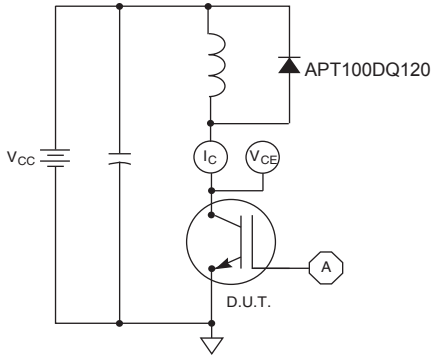

Figure 21, Inductive Switching Test Circuit
① Repetitive Rating: Pulse width limited by maximum junction temperature.
② For Combi devices,  $I_{ces}$  includes both IGBT and FRED leakages.
③ See MIL-STD-750 Method 3471.
④  $E_{on1}$  is the clamped inductive turn-on energy of the IGBT only, without the effect of a commutating diode reverse recovery current adding to  $\alpha$  the IGBT turn-on loss. Tested in inductive switching test circuit shown in figure 21, but with a Silicon Carbide diode.
⑤  $E_{on2}$  is the clamped inductive turn-on energy that includes a commutating diode reverse recovery current in the IGBT turn-on switching loss. (See Figures 21, 22.)
⑥  $E_{off}$  is the clamped inductive turn-off energy measured in accordance with JEDEC standard JESD24-1. (See Figures 21, 23.)
⑦  $R_G$  is external gate resistance not including gate driver impedance.